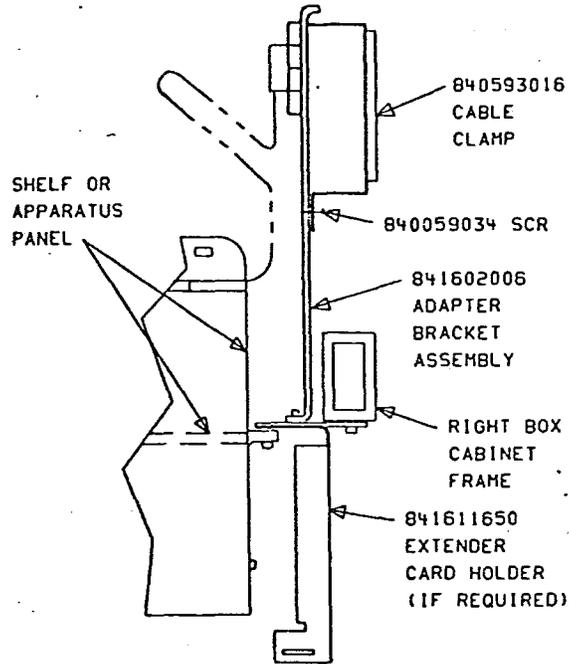

FIGURE 2
- 2.14 If extender card holder 841611650 is to be installed slip it between adapter and right side of shelf base. See Figure 2.